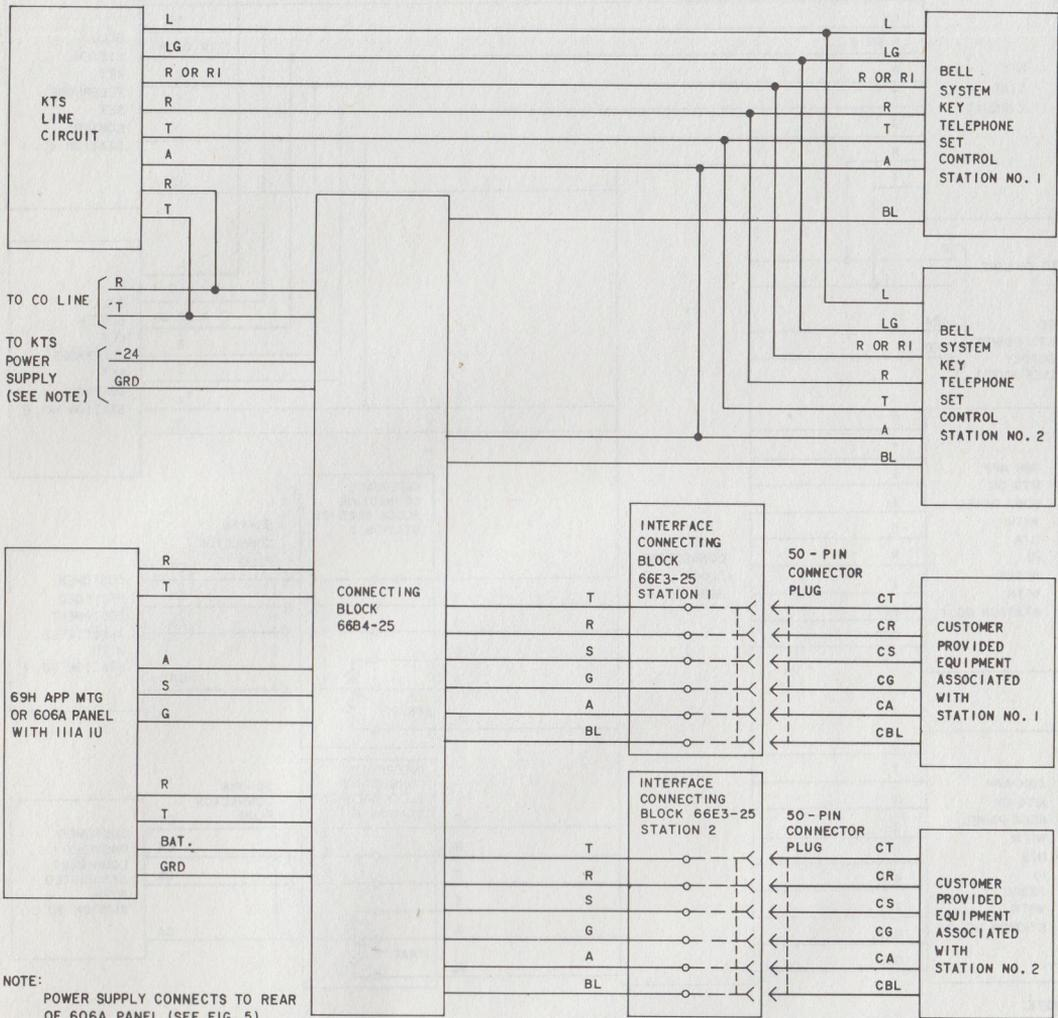

Fig. 7—Block Diagram—Voice Connecting Arrangement CEBBX
3.04 One 111A IU must be provided per each CO line with any number of multiple control stations to be connected to the CP equipment for Voice Connecting Arrangement CEBBX (Fig. 7).